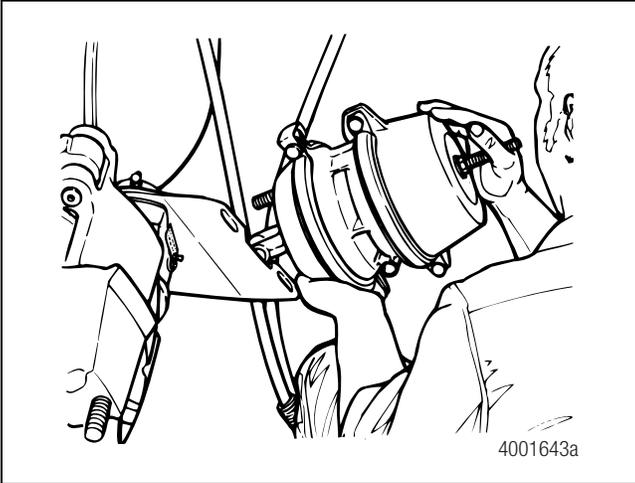
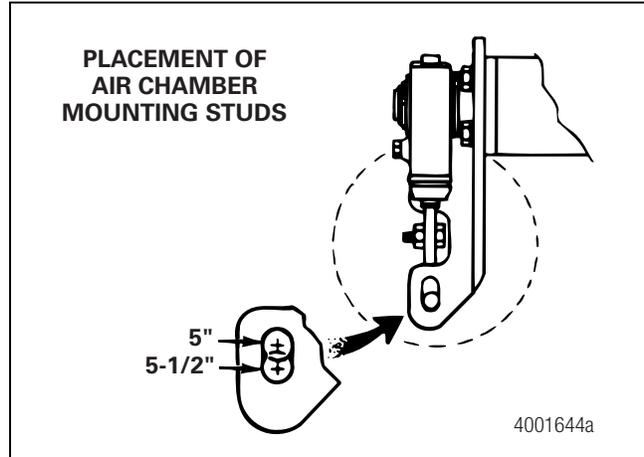

Figure 11.5
Figure 11.6
- If removed, install the air chamber. Figure 11.5. The position of the studs in the slots in the bracket depends on the length of the slack adjuster. Refer to Figure 11.6 to correctly position the studs.